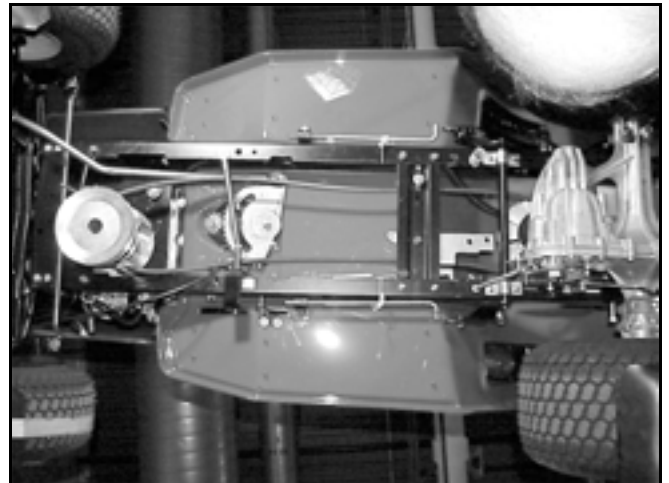

Figure 154
- Before installing the mower deck on the tractor, check the routing of the drive belt (Figure 154).